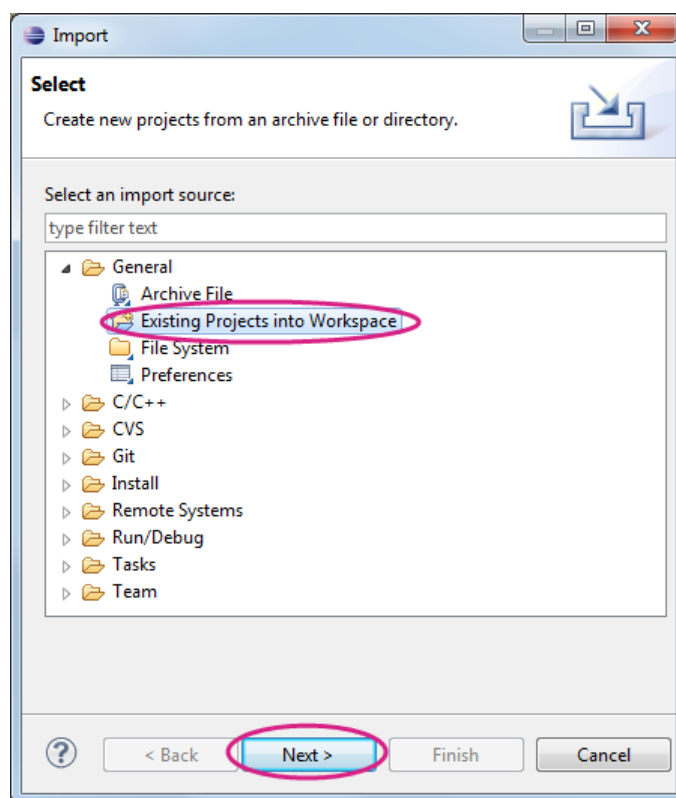

Figure 54 Selecting the import source
- a) In Eclipse, on the **File** menu click **Import**. In the **Select** window, open the **General** folder and click **Existing Projects into Workspace** as the import source, as shown in **Error! Reference source not found**.Figure 54.